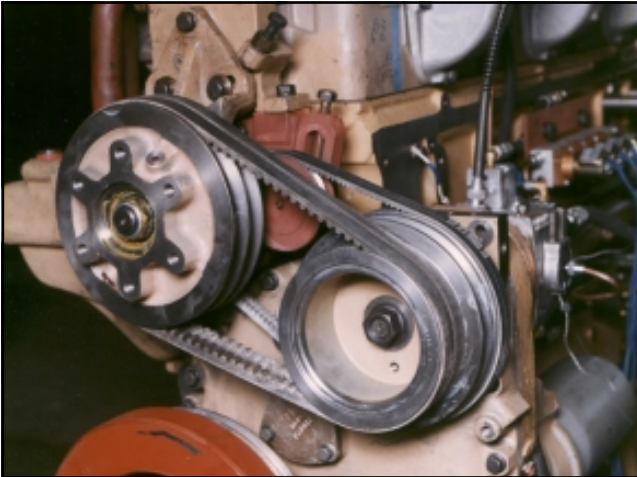

Fig 4-5. Fan hub installation NT 855 (FFC)
5. Tighten NH/NT Engines locknut to 350 ft-lbs using ratchet spanner 3244252. Tighten the four 1/2 inch capscrews Fig. 4-5 on NT FFC Engines to 75 to 85 ft-lbs (101 to 115 N•m)